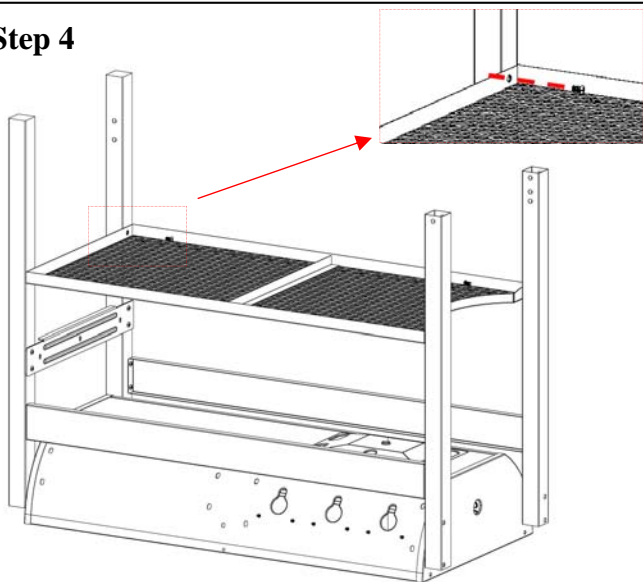

Fig. 4
Procedure: Attach the Bottom Shelf to four Legs using (4) M6x12 bolts as shown as Fig. 4. Do not fully tighten the bolts at this time.